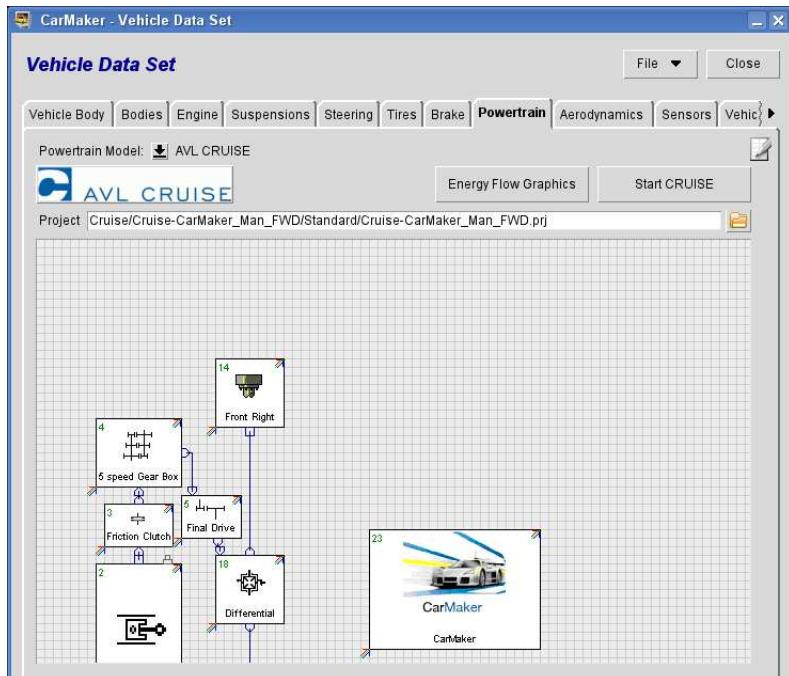

Figure 10.18: CRUISE powertrain model view
**Project** Here, the path to the actual CRUISE project is shown. If the field is empty, no valid CRUISE project is selected. By clicking on the file icon at the right a file browser pops up. Valid CRUISE projects with the file extension .prj can be chosen. If there is a picture of the powertrain model in the CRUISE project folder, it will be displayed in the area at the bottom as shown in Figure 10.18. See the next chapter for the requirements a CRUISE project has to comply.